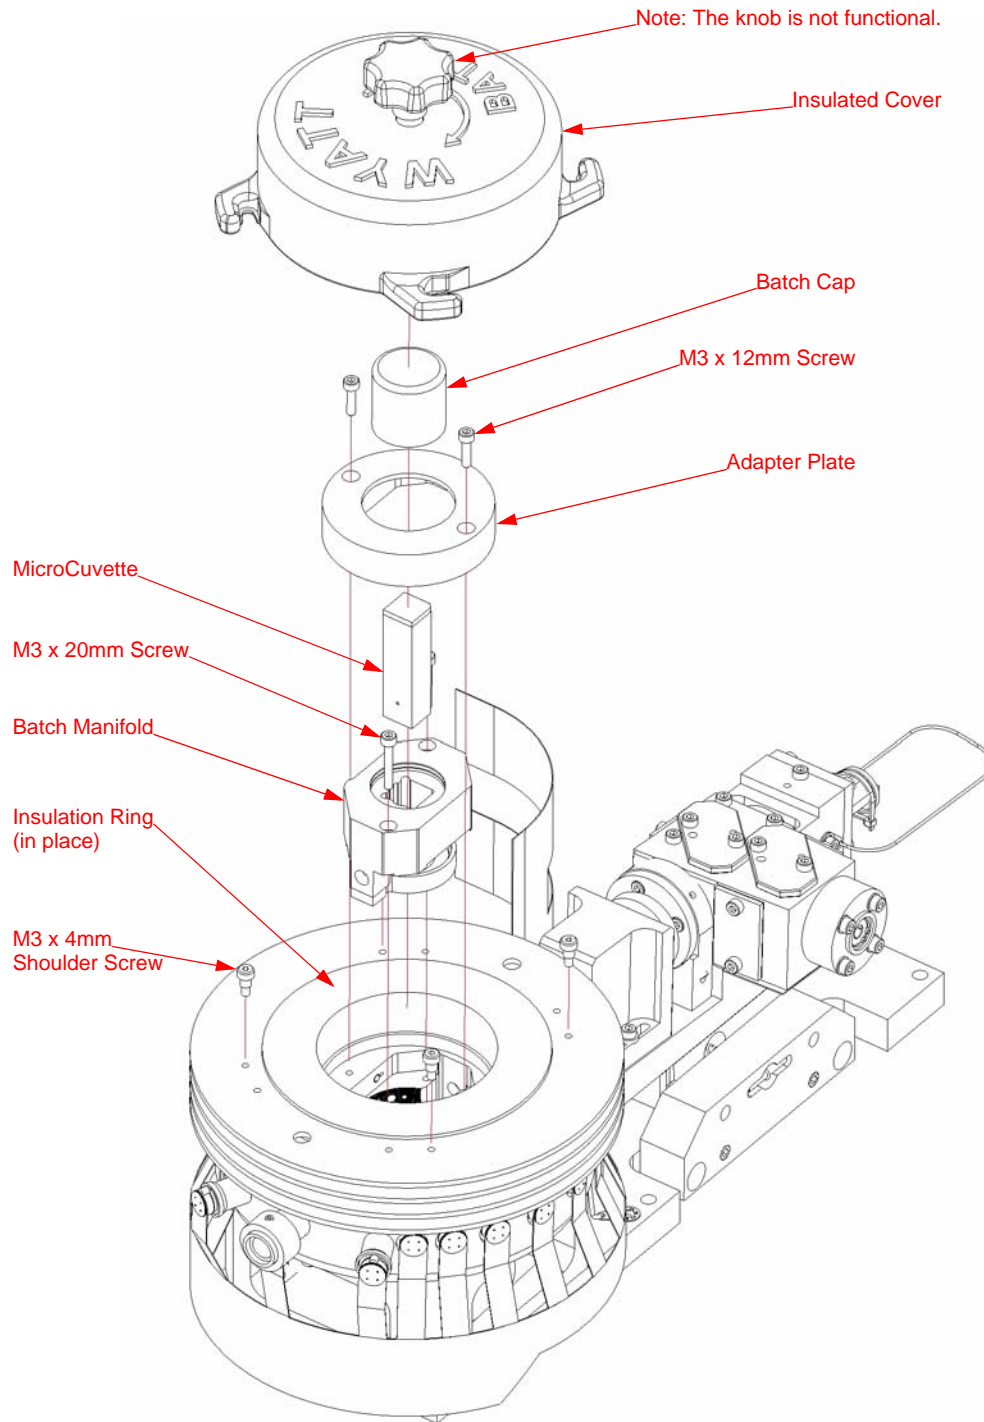

Figure 3: Temperature controlled flow to MicroCuvette conversion kit, exploded.
Installation steps (see Figure 3 for an exploded view):
6. Using the 2.0 mm ball driver install four shoulder screws as shown in Figure 3.